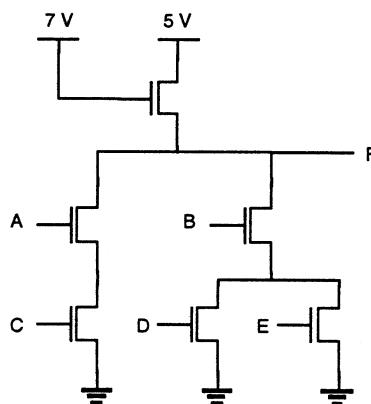

Figure P7.5
- 7.5 For the gate shown in Fig. P7.5,